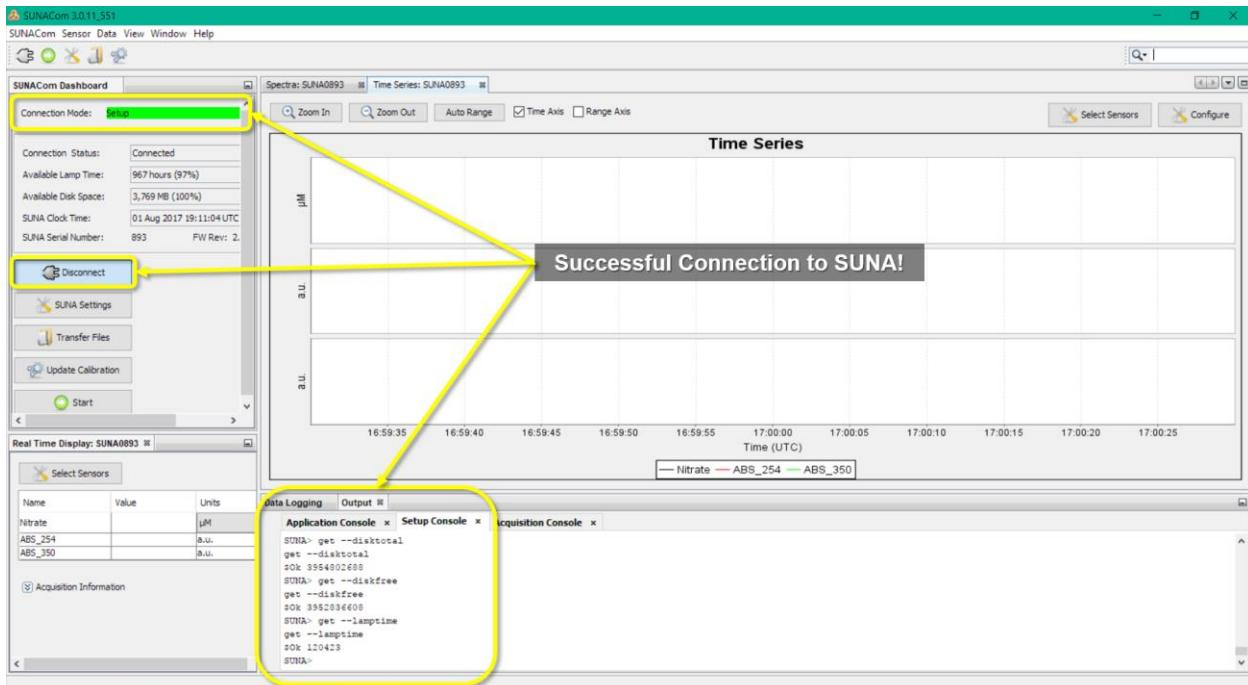

Figure 109. Successfully Connected to the SUNA
8. The connection is successful with the “**Setup Console**” tab displays “**SUNA>**” and connection data is continuously scrolling up, and the **Connection Mode** is green (see Figure 109).